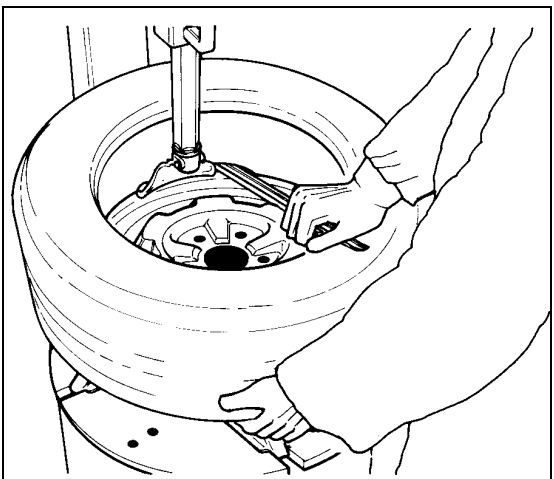

Fig.17
H. Repeat the process for removing the lower bead. This time, lift the bead opposite to the mount/demount head to keep it in the drop center (Fig.17). Move the swing arm aside and remove the tire.